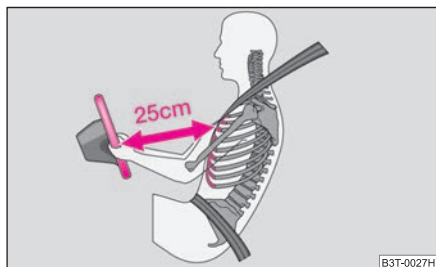

Fig. 120 Safe distance to steering wheel
- The driver must maintain a distance of at least 25 cm to the steering wheel ⇒ fig. 120. Not maintaining this minimum distance will mean that the airbag system will not be able to properly protect you – hazard!